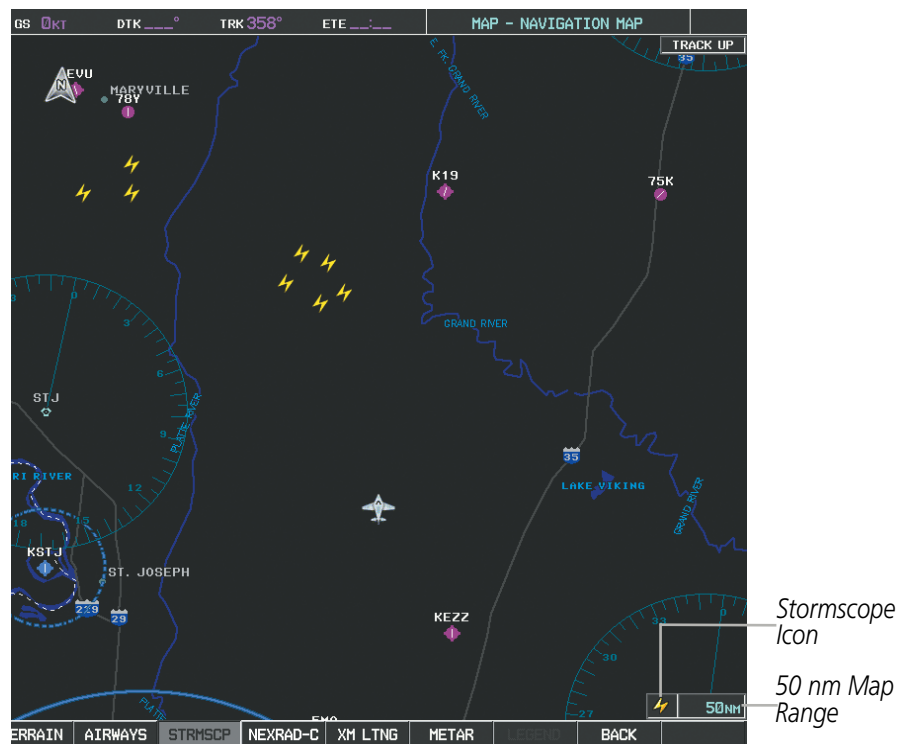

Figure 6-121 Navigation Map Page with Stormscope Lightning Data
7) Press the **FMS** Knob to return to the Navigation Map Page (Figure 6-121).
On the Navigation Map, cell mode identifies cells of lightning activity (Figure 6-121). Stormscope identifies clusters of electrical activity that indicate cells. Strike mode indicates the approximate location of lightning strikes.